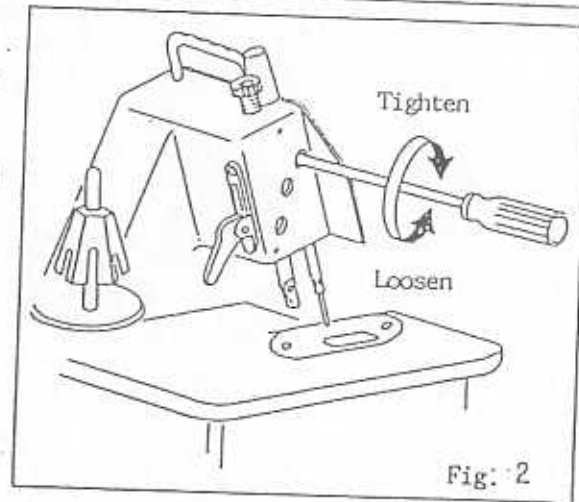

Fig. 2
3. Insert the screwdriver into the hole and loosen the needle bar clamp screw as shown in Fig. 2.